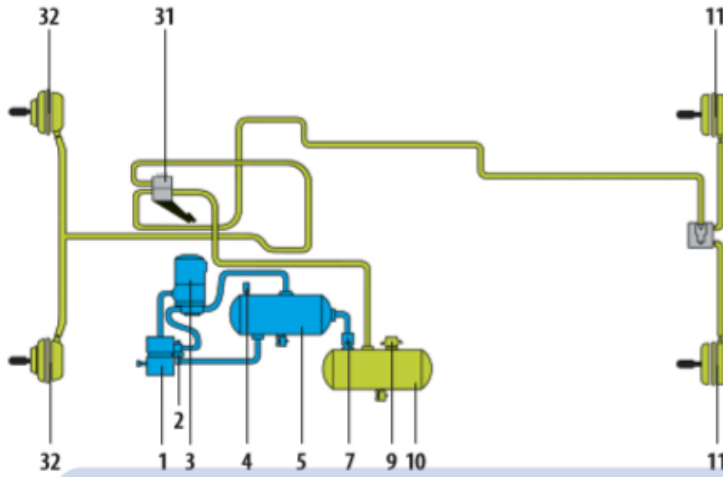

Figure 3
3. **Figure3** below is a layout of air braking system.